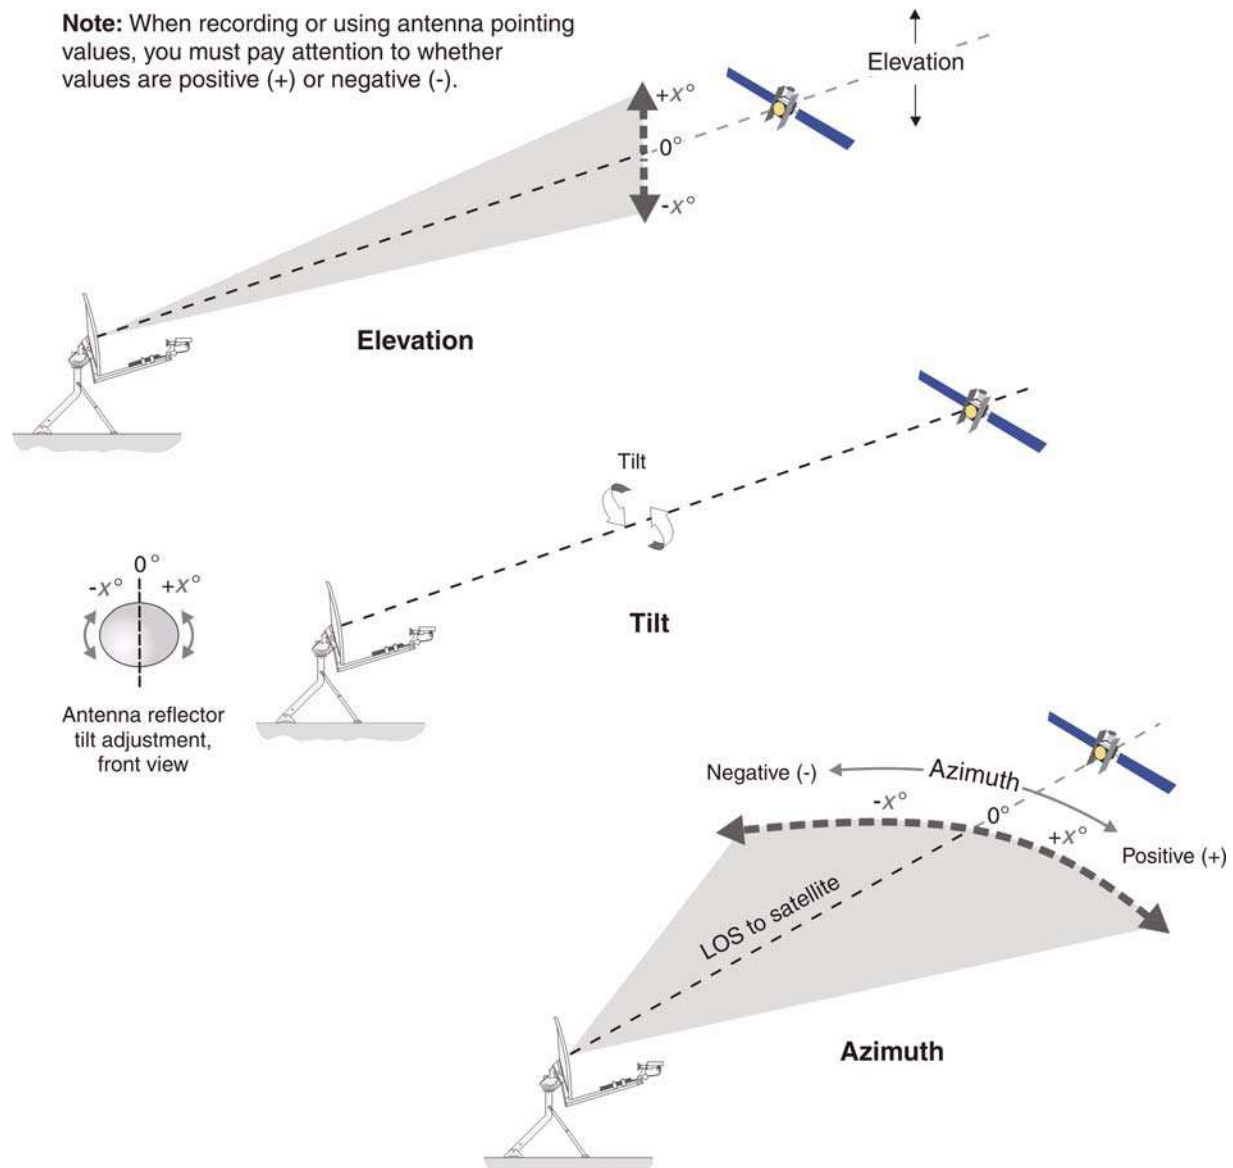
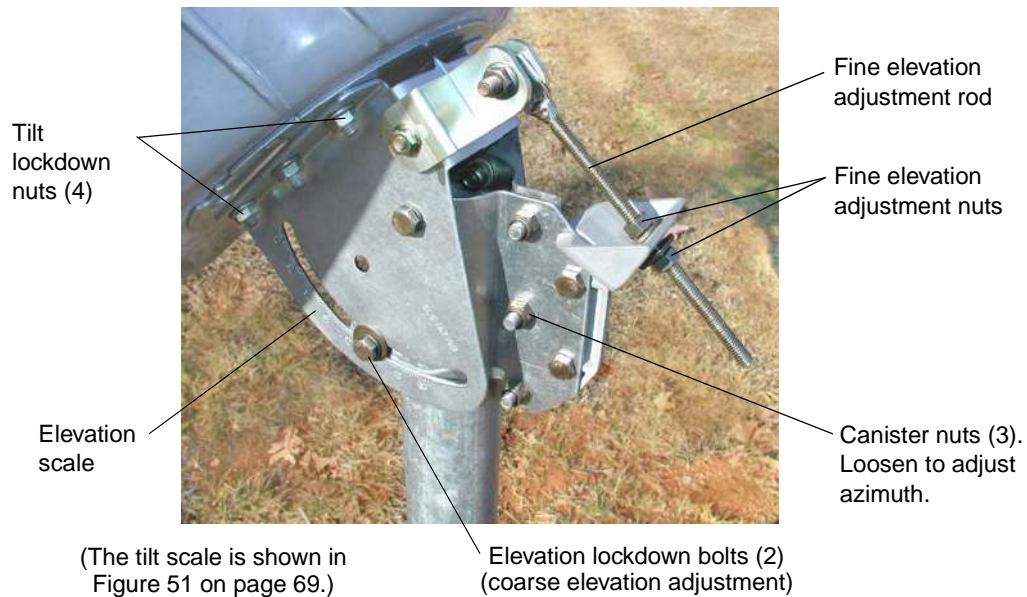

Figure 47: Adjusting azimuth, elevation, and tilt
Figure 48: Pointing adjustments on the antenna—elevation, tilt angle, and azimuth
These adjustments are illustrated in Figure 47. The corresponding mechanical adjustments on the antenna are shown in Figure 48.
Figure 48 shows the mechanical adjustments for azimuth, elevation, and tilt. All pointing adjustments require a ½-inch wrench.
**Note:** The elevation lockdown hardware shown in Figure 48 may be two nuts or two bolts (one on each side of the Az/El assembly).
*Tilt angle* refers to the rotation of the antenna reflector (as shown in Figure 47 on page 64) and is measured in degrees from zero (no rotation), either positive or negative. The tilt angle is positive when east of the satellite longitude and negative when west of the satellite longitude.